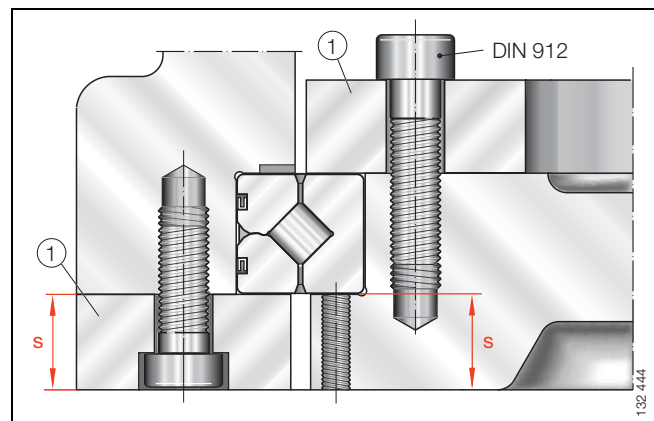

Figure 3 · Crossed roller bearing SX located by means of clamping rings
For location of crossed roller bearings SX, clamping rings ① have proved effective (Figure 3).